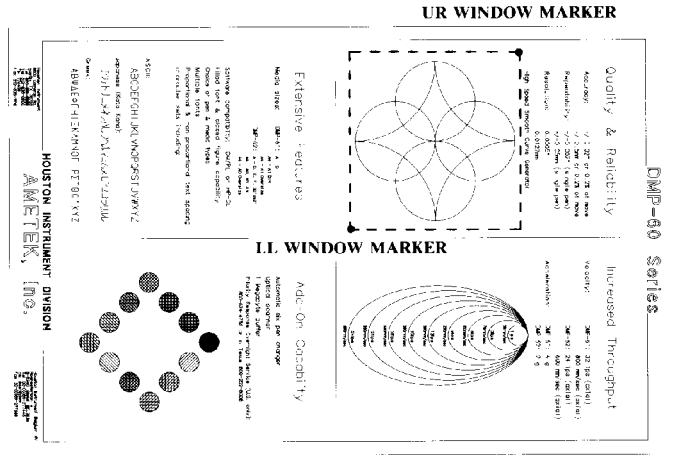

Figure 2-6. LOWER LEFT/UPPER RIGHT WINDOW MARKERS
- The objective of this step is to clip the circle/arc design from the test plot with the window. Use the MANUAL MOVEMENT KEYS to move the pen holder to the position of the lower left window marker illustrated in Figure 2-6. After the pen holder is positioned, specify this location as the new lower left corner point of the window by pressing ENTER (the LED indicator will illuminate), and then CLIP LL. (After CLIP LL is pressed, the ENTER indicator will turn off.)
Next, use the MANUAL MOVEMENT KEYS to move the pen holder to the position of the upper right window marker illustrated in Figure 2-6. After the pen holder is positioned, specify this location as the new upper right corner point of the window by pressing ENTER (the LED indicator will illuminate), and then CLIP UR. (After CLIP UR is pressed, the ENTER indicator will turn off.) Register the corner points by pressing the LOCAL key (the LOCAL indicator will turn off).